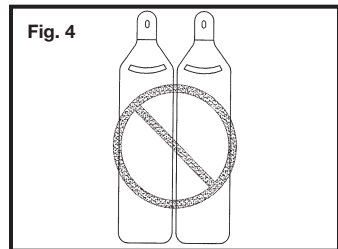

Fig. 4
6. Never use oxygen or other bottled gasses. Explosion will occur. Never use combustible gases or any other reactive gas as a power source for this tool: explosion and serious personal injury will result. Fig. 4.